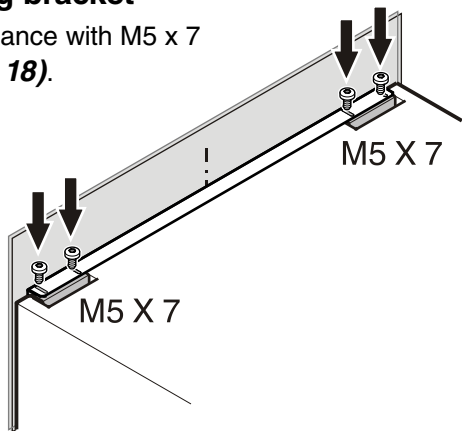

Figure 18
4. Secure the appliance with M5 x 7 screws (Figure 18).